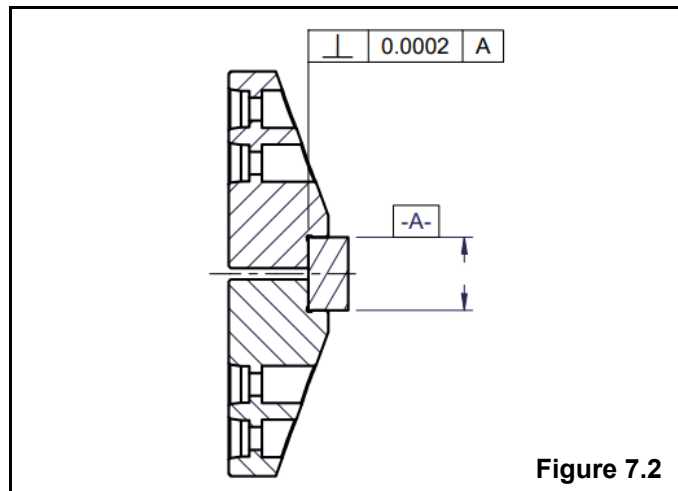

Figure 7.2
6. Short workpieces must have a square locating face on which they are clamped, in order to ensure the part is clamped accurately. Refer to Figure 7.2.